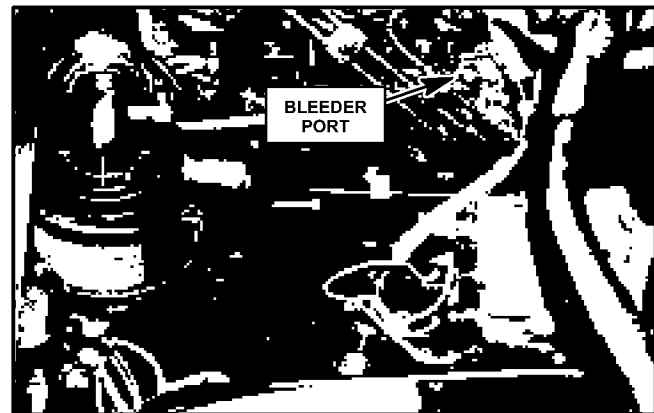

Figure 30
- Open the bleeder port located on top of the fuel injector (See Fig. 30).
- Open the bleeder port on top of the fuel injector (See Fig. 30).